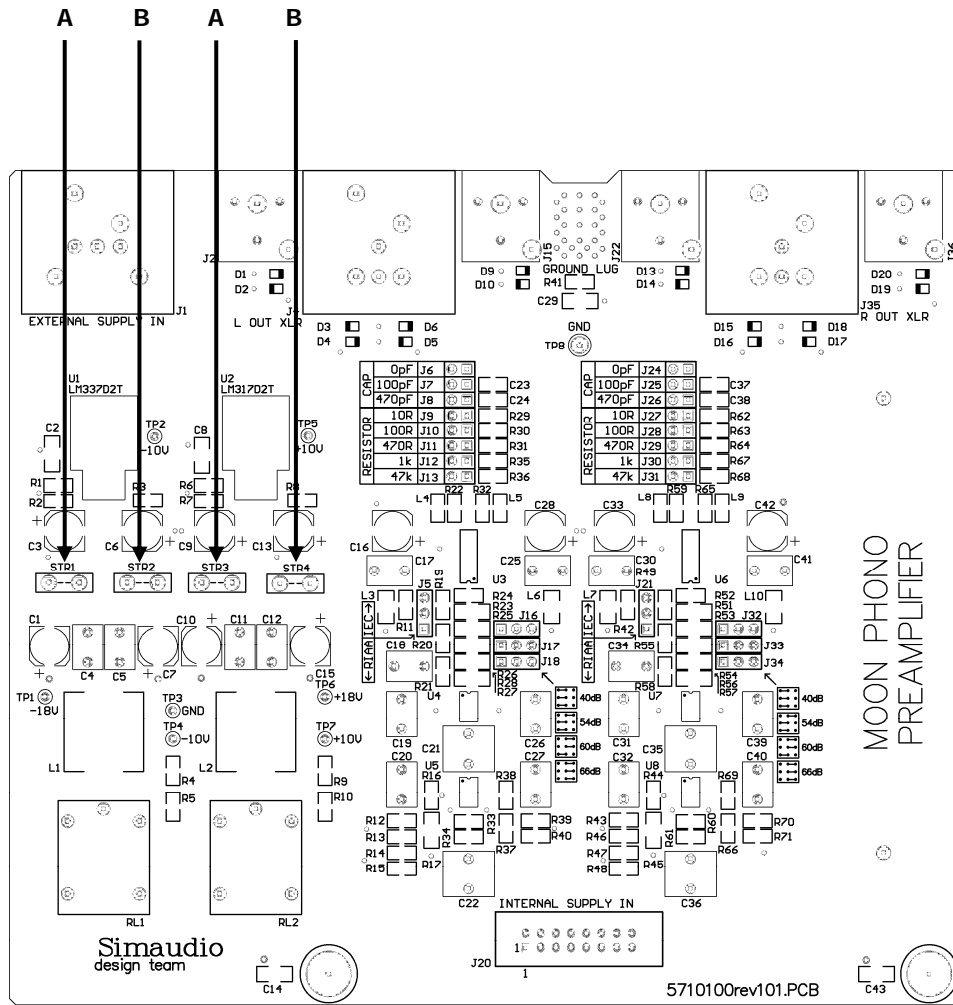

Figure 1: MOON LP5.3 Circuit Board layout
Prior to connecting your **MOON LP 5.3 Phono Preamplifier** to the **MOON PSX 5.3 Power Supply**, you **must** move two (2) internal jumpers inside your **MOON LP 5.3**. Please refer to page 8 of your **MOON LP5.3** owner's manual for detailed instructions on how to remove the chassis cover. Referring to the above diagram of the LP5.3, you will see an array of four (4) jumper sockets labeled STR1, STR2, STR3 and STR4. The factory default position for the 2 jumpers is in sockets STR2 and STR4 (positions B in figure 1). To properly operate the **MOON LP 5.3** in conjunction with the **MOON PSX 5.3**, you will need to move these 2 jumpers into sockets STR1 and STR3 (positions A in figure 1). Failure to make these adjustments may cause damage that is not covered by warranty.